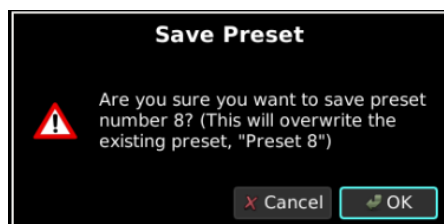

Figure 2-60 Save Preset Screen
1. To save a preset, press and hold the desired key for a minimum of three seconds, select **OK** at the prompt (see Figure 2-60), then press **ENTER**. Always make a note of the number you use for each preset.